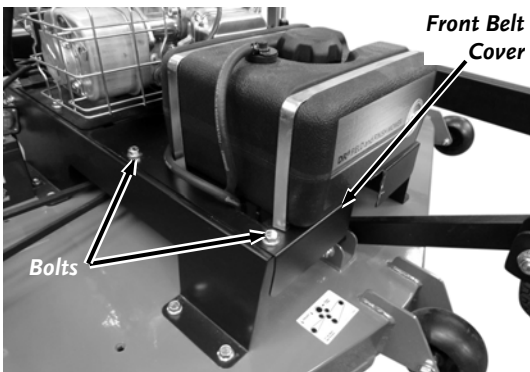

Figure 45
4. Remove the six Bolts (Mow Pro-44 Model) or four bolts (Mow Pro-60 Model) securing the Front Belt Cover using a 9/16" Wrench and remove the Cover (Figure 45).